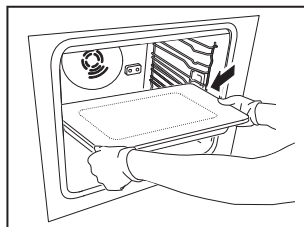

Fig. 1
1. Use both hands to properly place the induction plate on the third shelf position (Fig. 1).